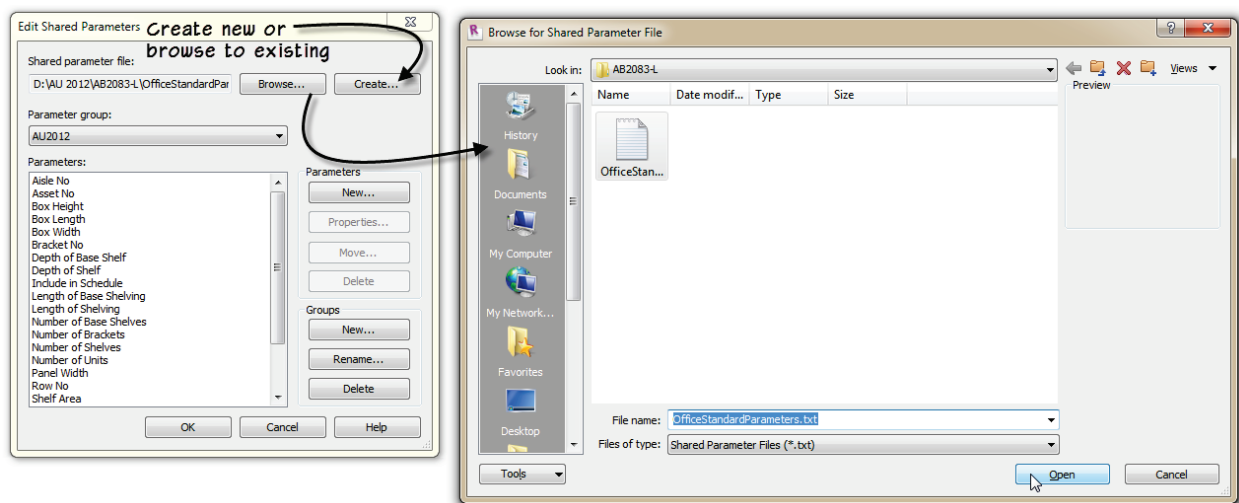

Figure 4—Create or Browse to a Shared Parameter File
- c. Give the file a name and then click the Save button (see Figure 4).
- b. In the “Browse for Shared Parameter File” dialog, browse to the location of the office standard Shared Parameter file (for the lab it is called: **OfficeStandardParameters.txt**), select it and then click Open (see Figure 4).